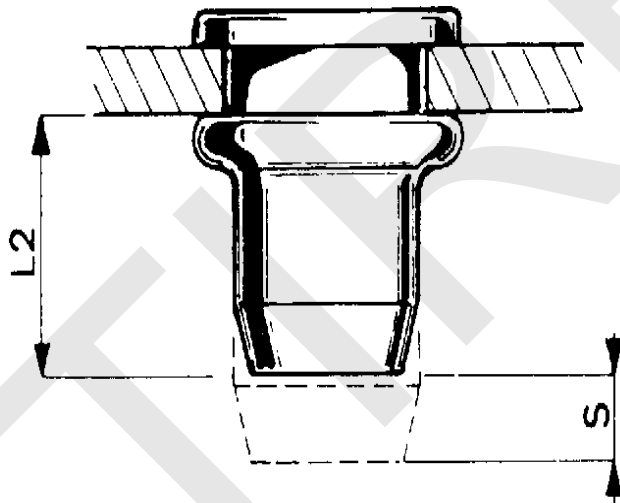

Fig. 6
- The optimal crimping (s) is indicated in the RIVKLE[®] brochure.(fig.6)